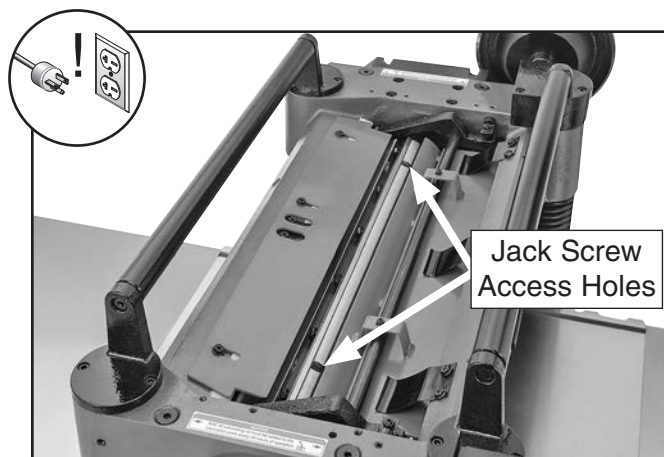
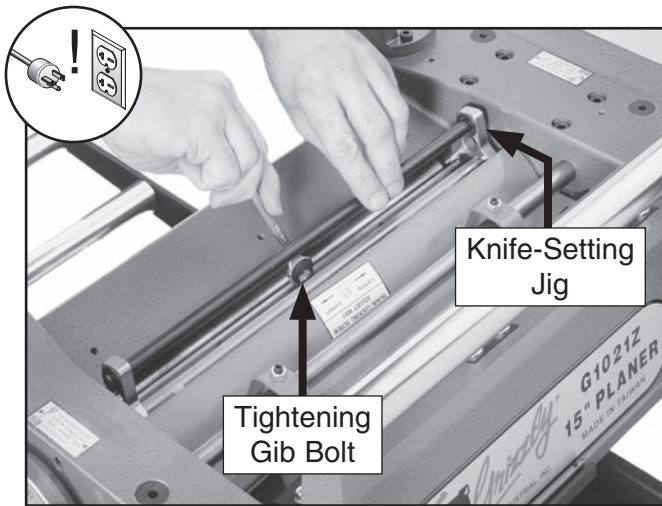

Figure 21. Example of jack screw access holes in cutterhead.
Figure 22. Example of using knife-setting jig to set knife height on Model G0890.
7. Insert hex wrench into access holes in cutterhead (see **Figure 21**) and rotate jack screws to raise or lower knife until it barely touches center pad of knife-setting jig with all legs of jig still firmly on cutterhead. Then snug gib bolts enough to hold knife in place without fully tightening gib bolts (see **Figure 22**).